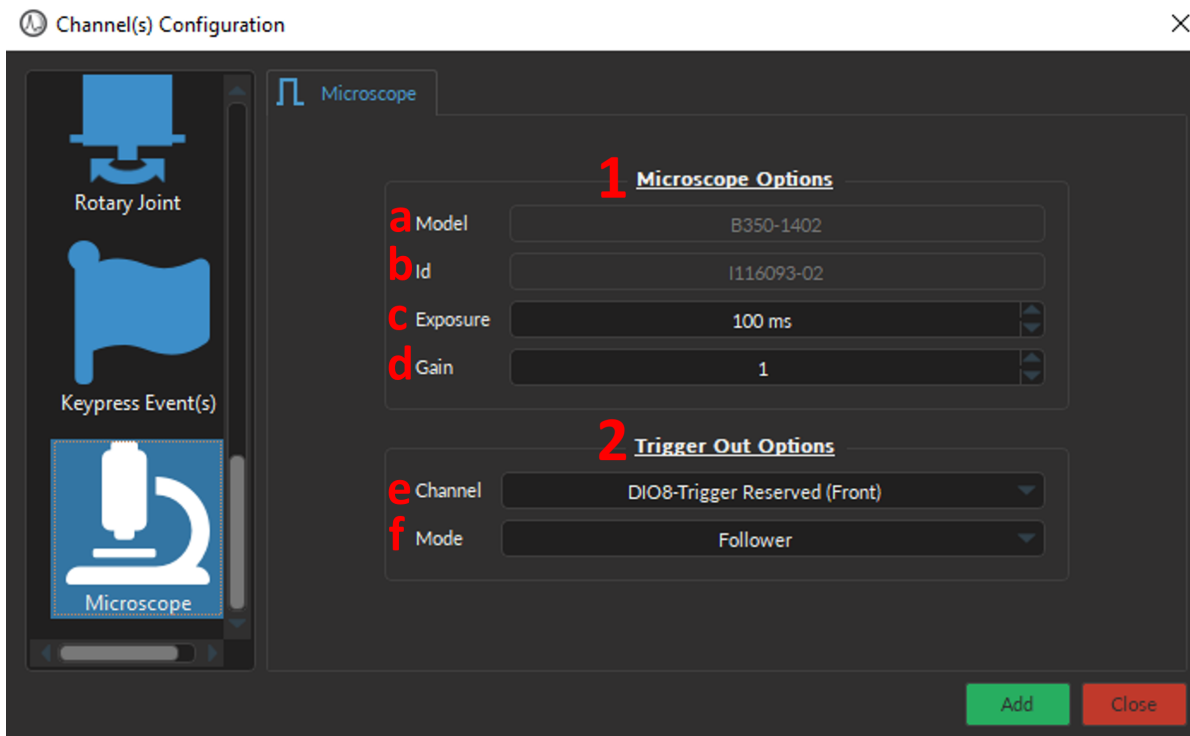

Figure 16.63: Channel(s) configuration window, Microscope
1. The **Microscope Options** (Fig. 16.63, 1) includes:
- a) The **Model** (Fig. 16.63, a) automatically detects the type of miniature microscope connected to the NC500 port.
- b) The **ID** (Fig. 16.63, b) displays the serial number of the miniature microscope connected to the NC500 port.
- c) The **Exposure** (Fig. 16.63, c) specifies the length of time (in ms) that the microscope sensor collects light from the sample. There are trade-offs between exposure time, image brightness, and phototoxicity.
- d) The **Gain** (Fig. 16.63, d) sets the relative amplification measure applied to the sensor. Note that increasing the gain will simultaneously increase both the signal and noise. Four options of gain (1-4) are available.
2. The **Trigger Out Options** (Fig. 16.63, 2) outputs a TTL train from the **Digital Output** port on the NC500 to synchronize other experiment devices. Two parameters must be specified:
- e) The **Channel** (Fig. 16.63, e) sets the DIO port number that outputs the TTL pulse when the microscope is recording. By default, **DIO8 (front)** is reserved for this purpose.
- f) The **Mode** (Fig. 16.63, f) specifies the shape or pattern of TTL output: